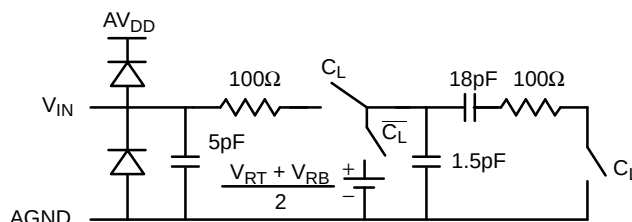

Figure 8. Equivalent Input Circuit
- See V_{IN} equivalent circuit (Figure 8). Switched capacitor analog input requires driver with low output resistance.
This part has a switched capacitor type input circuit. This means that the input impedance changes with the phase of the input clock. V_{IN} is sampled at the high to low clock transition and the digital data changes at the low to high clock transition. The diagram *Figure 8* shows an equivalent input circuit.